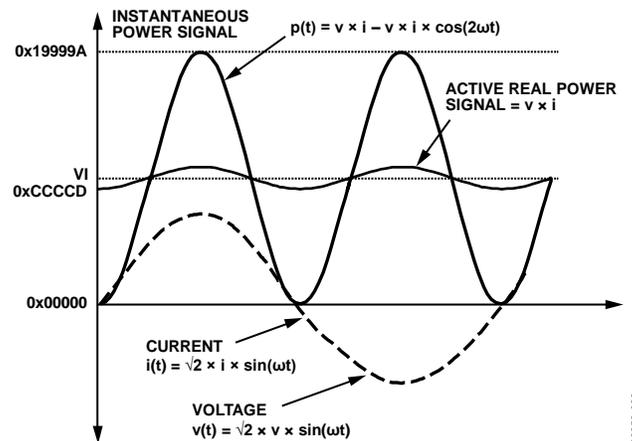

Figure 64. Active Power Calculation
Note that the active power is equal to the dc component of the instantaneous power signal  $p(t)$  in Equation 11, that is,  $VI$ . This is the relationship used to calculate active power in the ADE7116/ADE7166/ADE7169/ADE7566/ADE7569. The instantaneous power signal  $p(t)$  is generated by multiplying the current and voltage signals. The dc component of the instantaneous power signal is then extracted by LPF2 (low-pass filter) to obtain the active power information. This process is illustrated in Figure 64.
The ADE7116/ADE7166/ADE7169/ADE7566/ADE7569 also incorporate an active power offset register (WATTOS[15:0], Address 0x20). It is a signed, twos complement, 16-bit register that can be used to remove offsets in the active power calculation (see Figure 64). An offset can exist in the power calculation due to crosstalk between channels on the PCB or in the IC itself. The offset calibration allows the contents of the active power register to be maintained at 0 when no power is being consumed.
As mentioned in the Active Energy Calculation section, the discrete time sample period (T) for the accumulation register is 1.22 μs (5/MCLK). With full-scale sinusoidal signals on the analog inputs and the WGAIN register (Address 0x1D) set to 0x000, the average word value from each LPF2 is 0xCCCCD (see Figure 64). The maximum positive value that can be stored in the internal 49-bit register is 248 (or 0xFFFF,FFF,FFF) before it overflows. The integration time under these conditions when WDIV = 0 is calculated in the following equation: